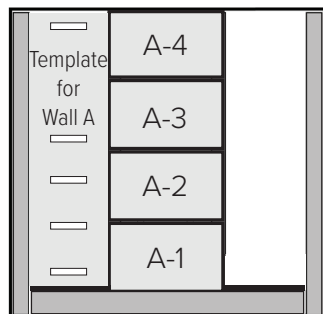

Figure 3.3.1
3.3.1 Place template marked “Elevation B Template” on J channel in Figure 3.3.1.